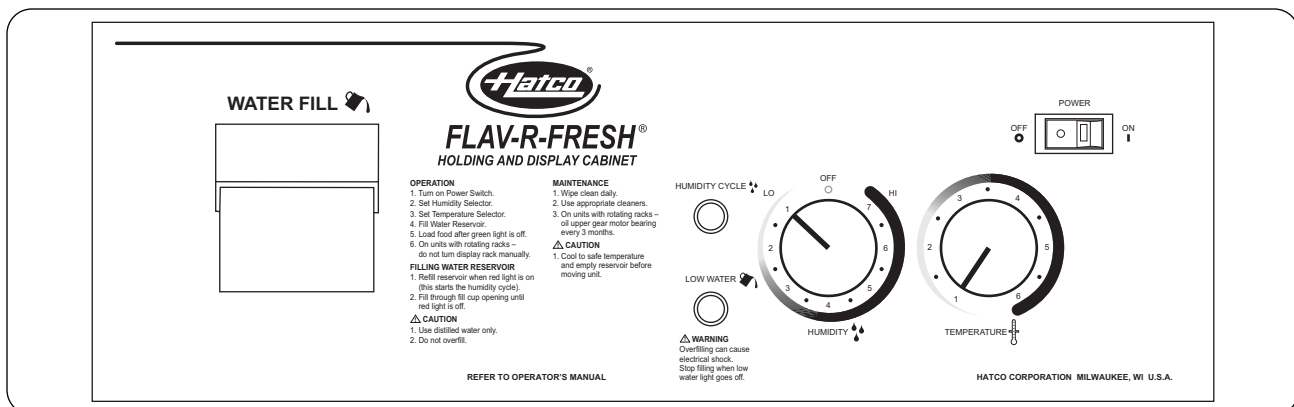

Figure 9. Flav-R-Fresh® Control Panel
3. Fill the water reservoir with **softened or distilled** water. To fill the reservoir, lift up the fill cup cover and pull forward (See Figure 9.). Slowly pour the water into the cup until the LOW WATER indicator light goes off.